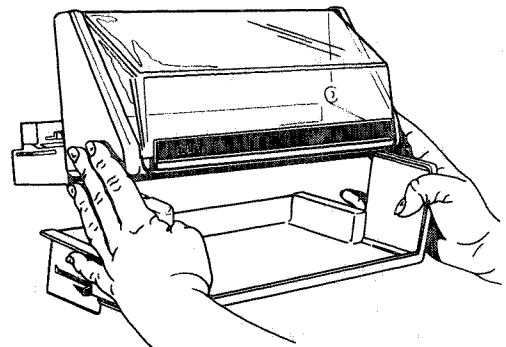

Figure 15
- e. Gently pull down. See Figure 15.